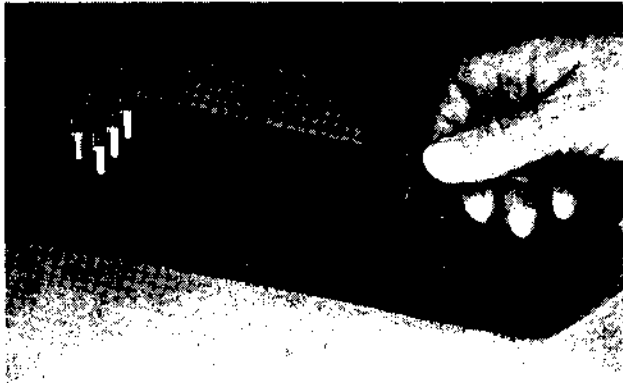

Figure 33
1. Set the lower insulators in place on the terminal plate (Figure 33).